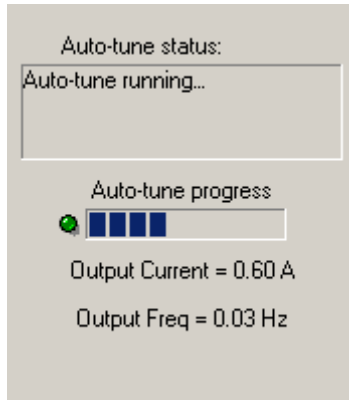

Figure 4.53: Auto-tune Progress Display
7. The status and progress of the auto-tune will be displayed in the upper right-hand side of the window. You can stop the auto-tune at any time by clicking on the **Stop** pushbutton. While the auto-tune is running the drive output current and frequency will be displayed (see Figure 4.53). A flashing green light indicates the auto-tune is in progress and DriveWizard™ is communicating with the drive.